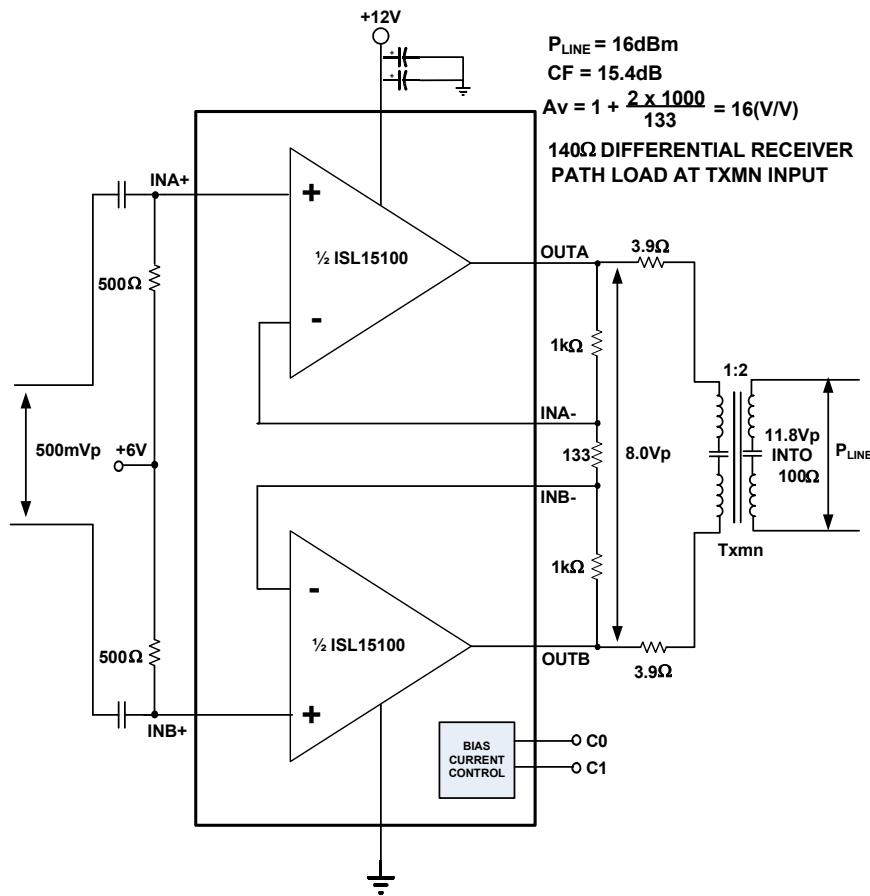

FIGURE 3. TYPICAL DIFFERENTIAL AMPLIFIER I/O
**Electrical Specifications**  $V_{S+} = +12\text{V}$ ,  $V_{S-} = \text{GND} = 0\text{V}$ , see Figure 3, Full Bias ( $C_0 = C_1 = 0\text{V}$ ),  $T_A = +25^\circ\text{C}$ , unless otherwise specified.
**Electrical Specifications**  $V_{S^+} = +12V$ ,  $V_{S^-} = GND = 0V$ , see Figure 3, Full Bias ( $C_0 = C_1 = 0V$ ),  $T_A = +25^\circ C$ , unless otherwise specified.